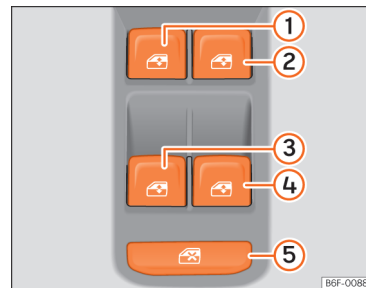

Fig. 59 Detail of the driver's door: window controls.
The safety control **>>> Fig. 59 ⑤** on the driver door can be used to disable the electric window buttons on the rear doors.